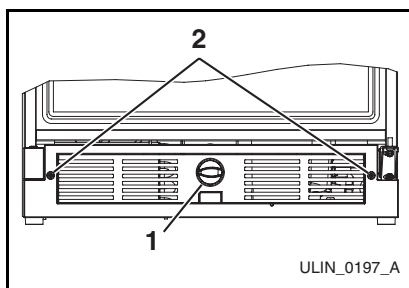

Figure 11
2. Remove the control knob (Figure 11, 1) by pulling it straight out, away from grille.
3. Remove two screws from grille (Figure 11, 2) and save.
7. Reinstall the control knob (Figure 11, 1).